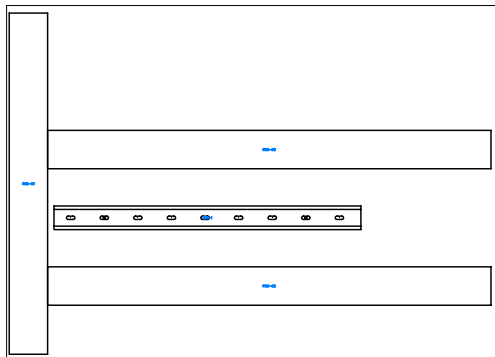

Figure P2-5 DIN-1 DIN Rail inserted in the drawing
35. Choose the **OK** button; the DIN-1 DIN Rail is inserted in the drawing, as shown in Figure P2-5.